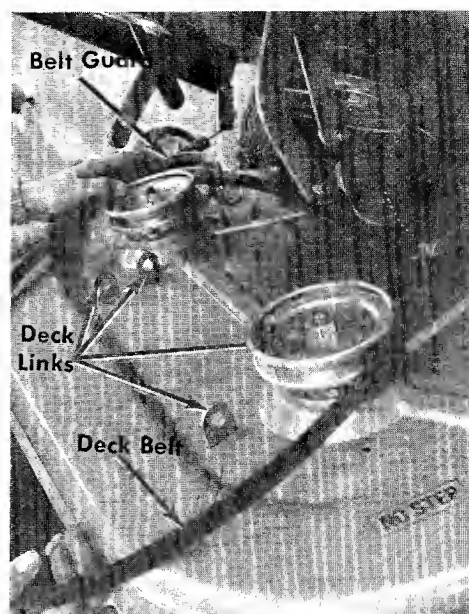

**FIGURE 25. REMOVING TENSION SPRINGS**
Step 5. Unhook the tension springs on both sides of the deck. See figure 25.